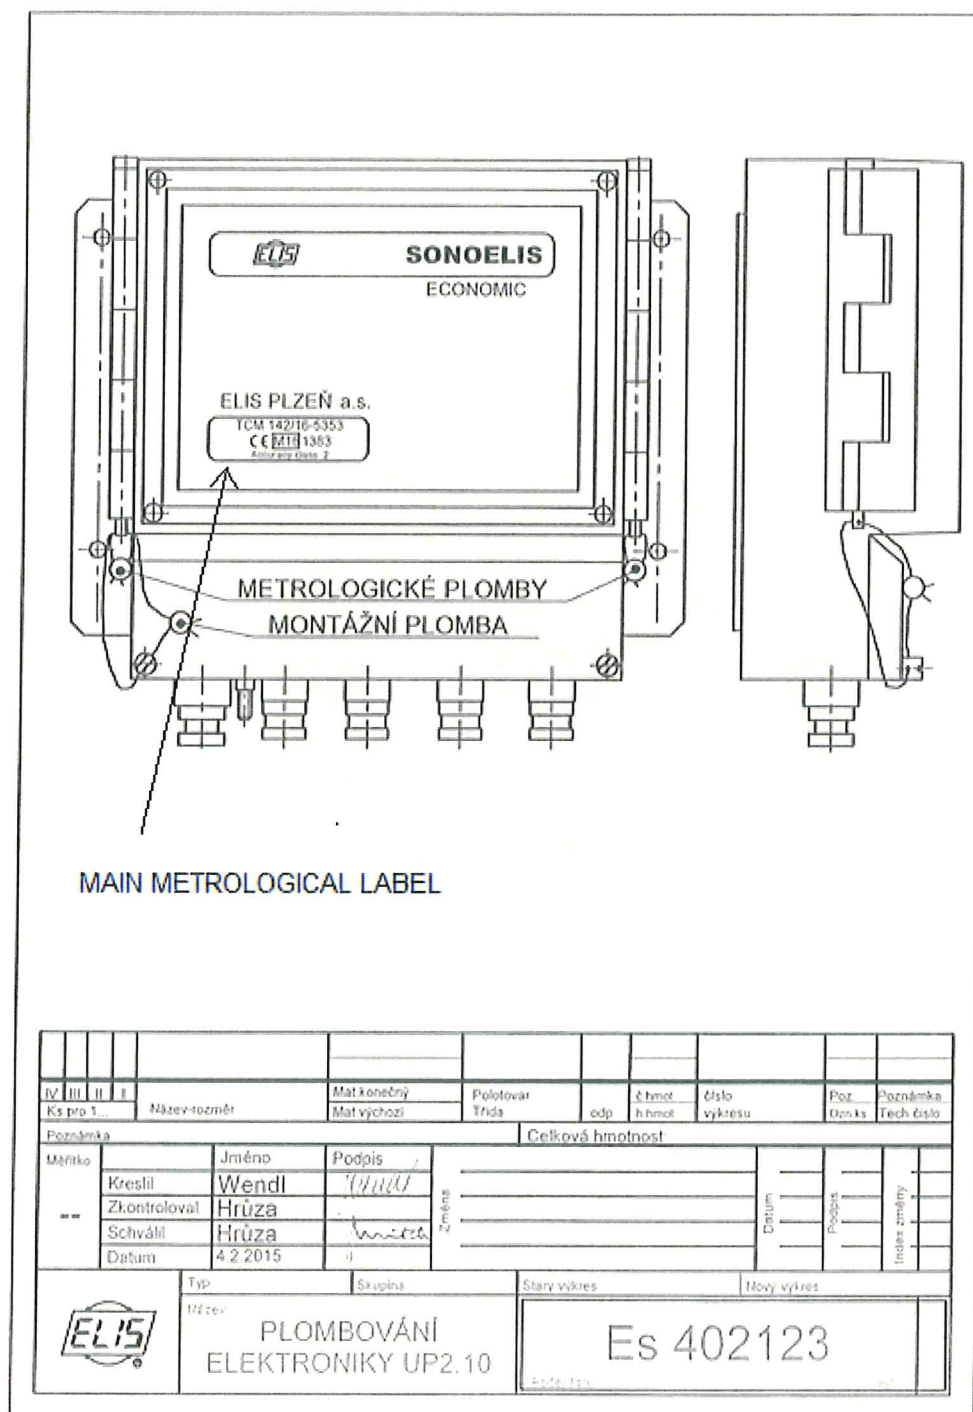
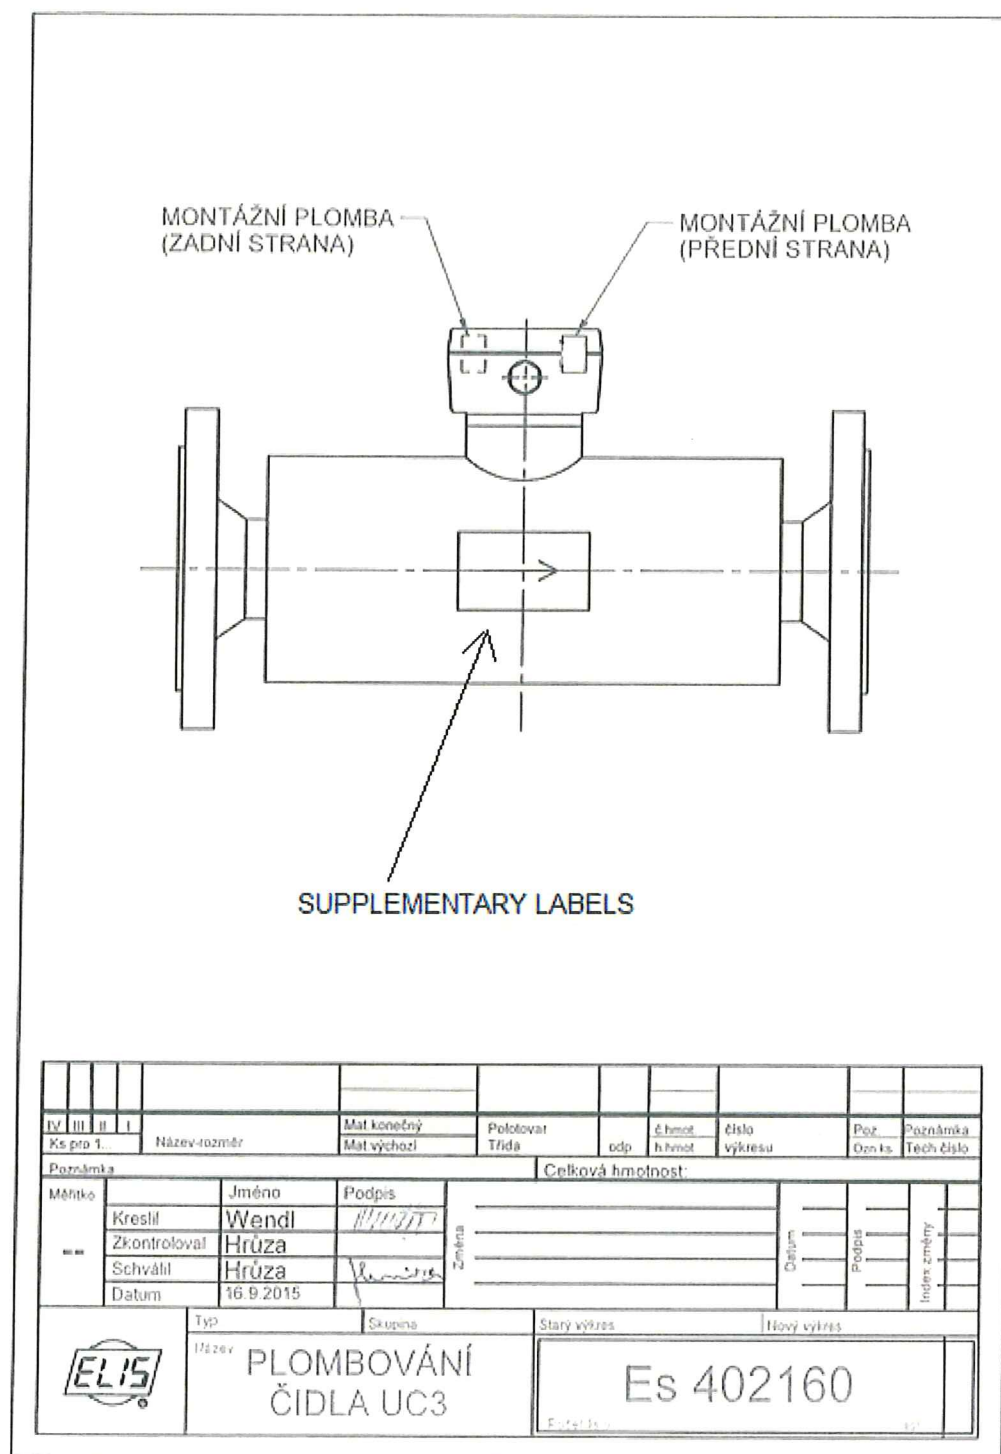
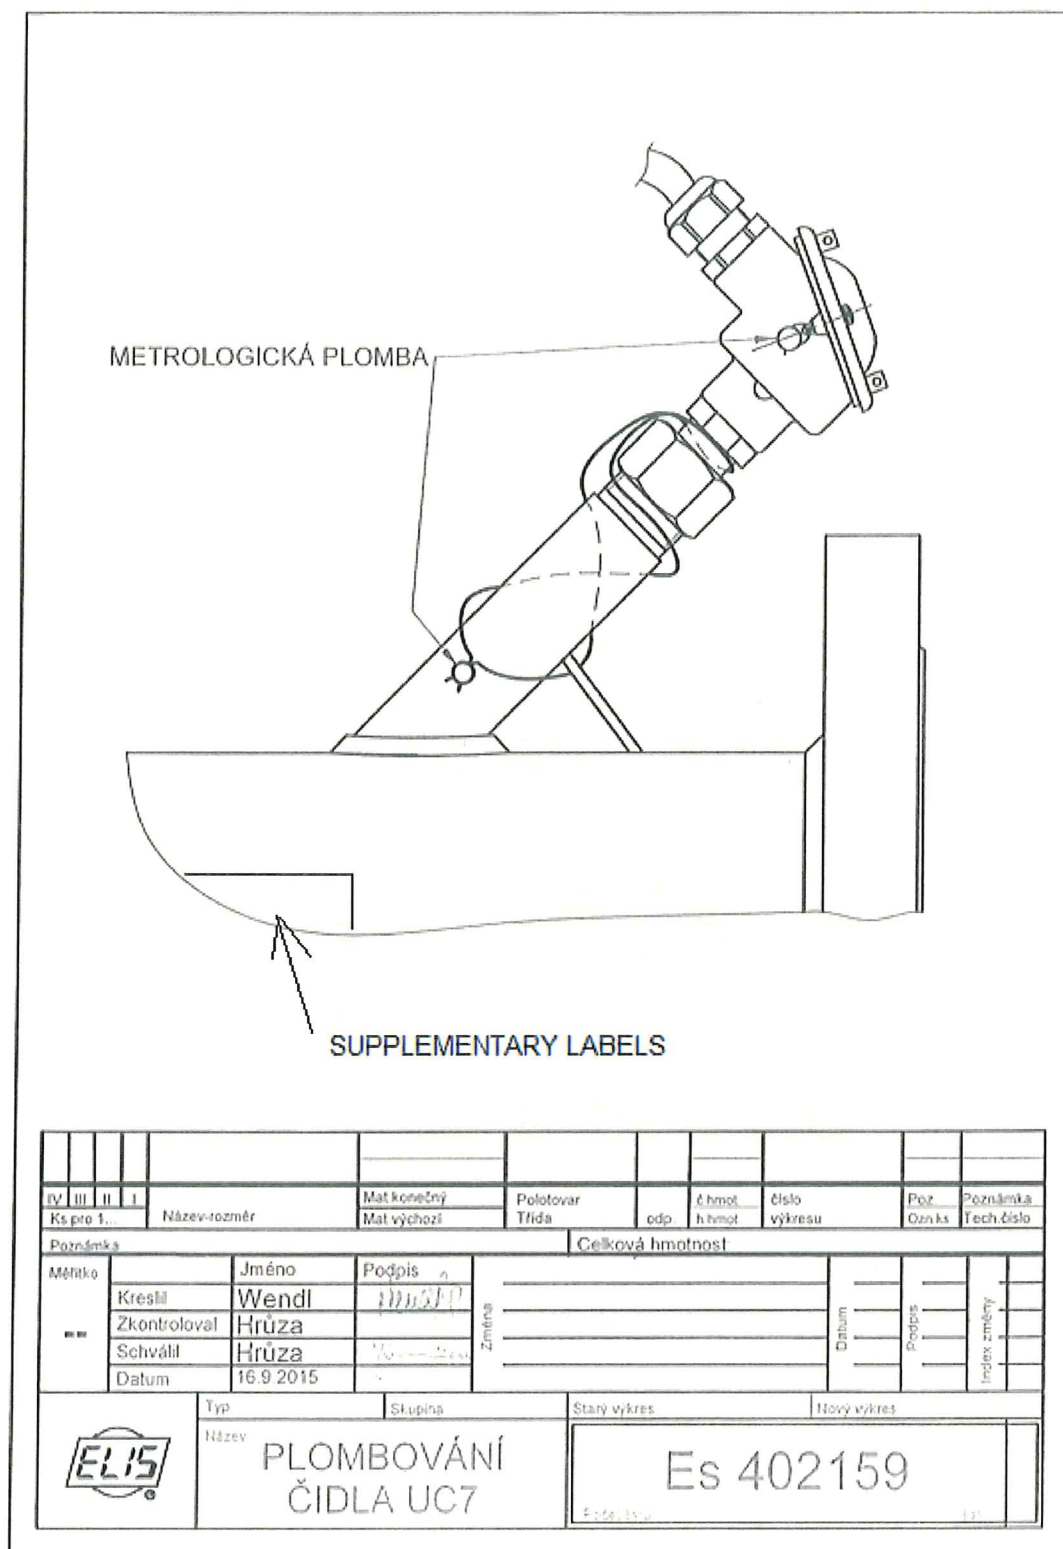

Figure 4: Electronic unit UP 2.10
Figure 5: Flow sensor UC 3.0
Figure 6: Flow sensor UC 7.0
There are following data on the measurement device (outside of electronic box and sensors) see also next pictures Figure 4, Figure 5, Figure 6:
The flow meter is secured by metrological and installation seals as described in Figure 4, 5, 6
- on flow sensor: UC 3.0, figure 5, UC 7.0 figure 6